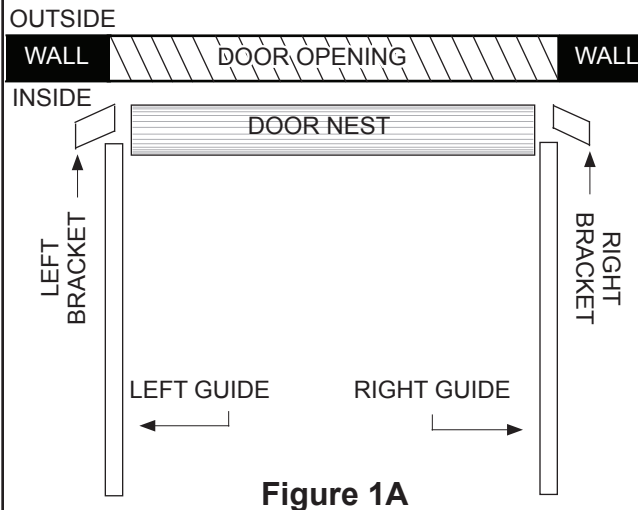

Figure 1A
3.3 Now place each bracket with the correct guide. Each bracket is labeled left or right (See Figure 1A).